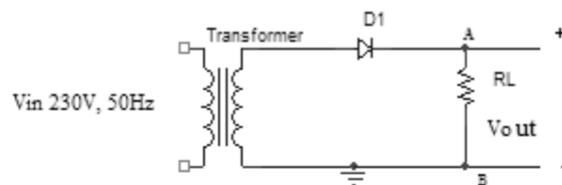

Fig 17a. Half wave rectifier circuit
Working: The circuit of half wave rectifier and waveform is shown in fig 17a. Half wave rectifier is a circuit which provides an output during positive half cycle of the input and zero output for the negative half cycle.
- During the positive half cycle of the input signal, the anode terminal becomes positive. Then, the diode is forward biased and hence conducts. Current flows through the load resistor and we get output voltage across the load resistance R_L . The current flows from the terminal A to terminal B. The polarity of the load voltage is as shown in the figure 17a.